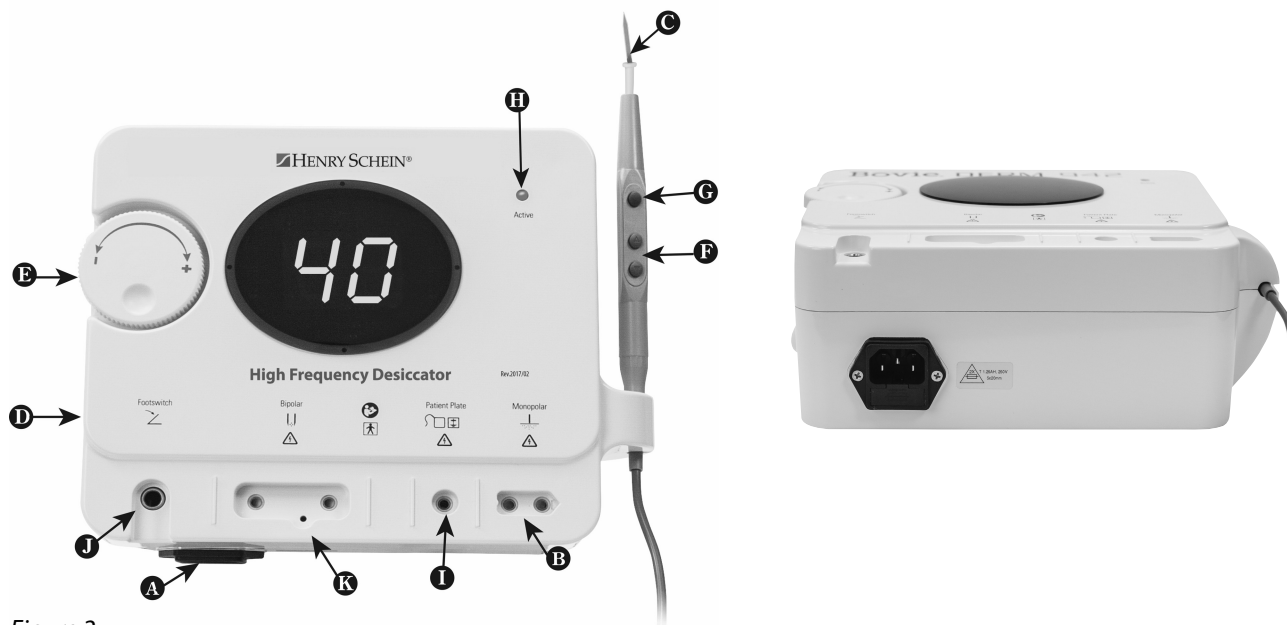

Figure 2
2. Plug the female end of the power cord into the base of the unit (see figure 2, letter A).
4. The monopolar output for the handpiece is on the lower right front of the unit (see figure 2, letter B). The handpiece plug is designed to fit in only one direction. Plug the connector from the handpiece into the receptacle on the bottom of the unit (see figure 2, letter B). The three button handpiece is designed to give the doctor complete fingertip control of the power output settings.
5. Slide the standard electrode into the handpiece until it is firmly seated (see figure 2, letter C). The handpiece will accept most standard $\frac{3}{32}$ " electrodes.
7. Turn the unit power on utilizing the switch on the left side panel of the unit (see figures 2 and 3, letter D).
8. Set the power output either by using the dial on the front of the unit (see figure 2, letter E) or the up and down buttons on the handpiece (see figure 2, letter F). When power level adjustment is being made by the handpiece an audible tone will sound to indicate that the power level has been changed. Depressing and holding the up or down buttons will cause the power settings to change more rapidly for quick adjustment of the output settings. Power output is displayed in ".1" watt increments from 0.1 to 10 watts.
9. To activate the unit, remove the handpiece from the holder. Place the handpiece in the desired position and depress the activation button (see figure 2, letter G). When the unit is activated, an audible tone is sounded and the blue active light will illuminate (see figure 2, letter H).
10. To use the optional grounding plate with cord (A802EU), insert the plug of the cord into the grounding plate output (see figure 2, letter I) and connect the other end into the grounding plate. The plate should be placed underneath the patient at a point where the entire plate is covered by bare skin. The use of conductive gel is recommended.
11. To use the optional bipolar cord (A827V), insert the plugs into the bipolar outputs (see figure 2, letter K). The cord is then plugged into the forceps. Only one monopolar or one bipolar accessory can be plugged in to the outputs preventing the user from using both accessories simultaneously.
12. The optional footswitch (A803) is plugged into the footswitch output and placed on the floor (see figure 2, letter J). The footswitch can be used with monopolar procedures and must be used with bipolar procedures.